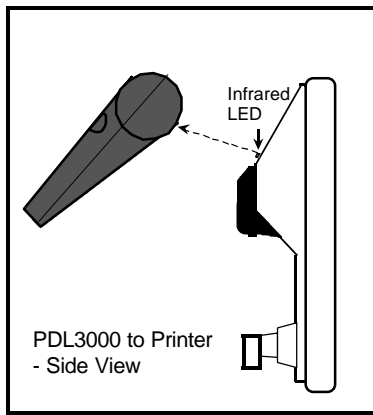
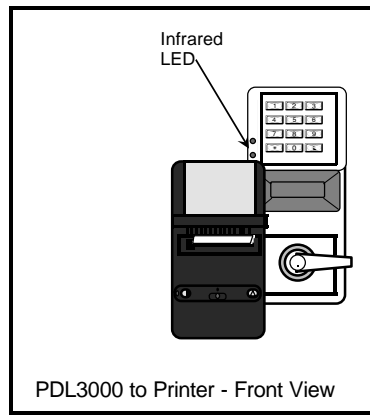

Figure 1
Figure 2
Hold the printer perpendicular to the Lock's infrared LED as shown in Figure 1 and Figure 2. If the printer has been idle for some time, press the paper feed button to wake up printer.
Hold the printer over the lock's infrared sensor as shown in Figure 1 and Figure 2. Twenty (20) events will print at a time; press 1 for more events, or 9 to quit. To abort printing, press any key for 3 Sec (Three short beeps will sound).
Hold the printer over the lock's infrared sensor as shown in Figure 1 and Figure 2. To abort printing, press any key for 3 Sec (Three short beeps will sound).
Hold the printer over the lock's infrared sensor as shown in Figure 1 and Figure 2.